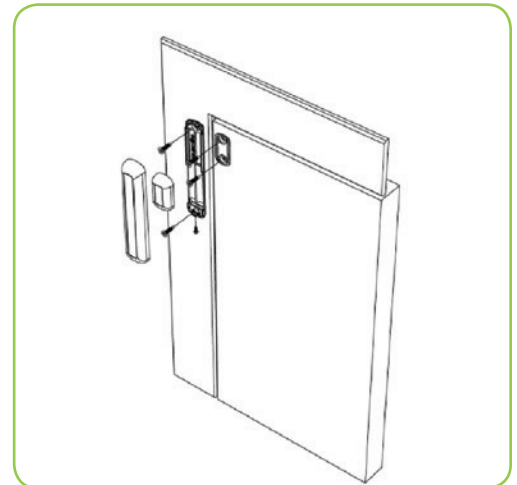

Figure-2 Install Switch and Magnet Bases
6. Use self-tapping screws to install both switch and magnet base (Figure-2).